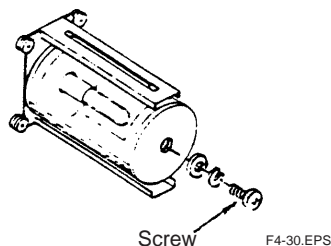

Figure 4.30
3. Remove screw (Figure 4.30).